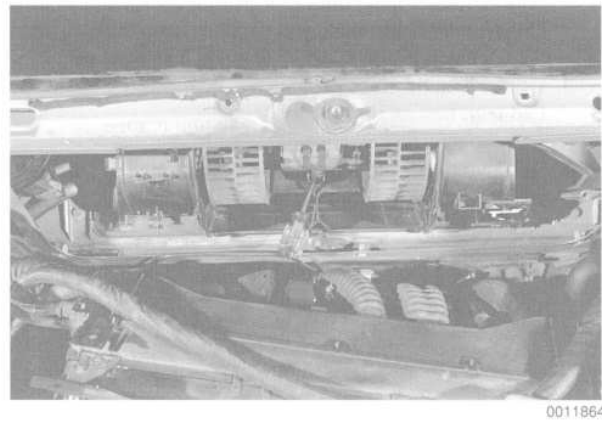

Fig. 3. Awl being used to disengage blower motor retaining strap. Pry up on strap to release.
- 7. Unclip blower motor retaining strap from blower motor. See Fig. 3.